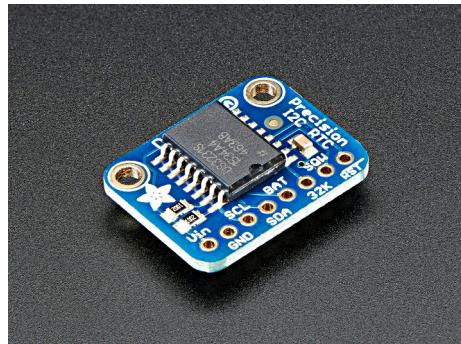

Figure 39: The DS 3231 hardware clock from Adafruit. Photo taken from www.adafruit.com.
- A DS 3231 precision hardware clock from Adafruit; this is a battery powered clock featuring temperature compensation. Fig. 39 shows this component which is about 15 €. A CR1210 battery is also needed.